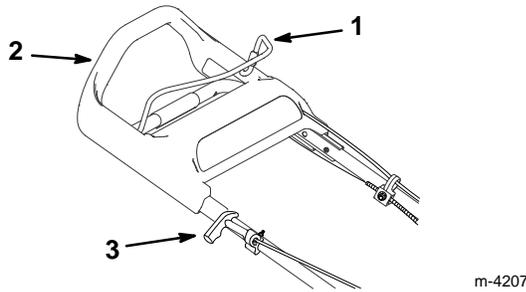

Figure 8
2. Hold the blade control bail against the upper handle (Fig. 8).
3. Pull the starter handle lightly until resistance is felt, then pull it sharply (Fig. 8). Allow the rope to return to the handle slowly.